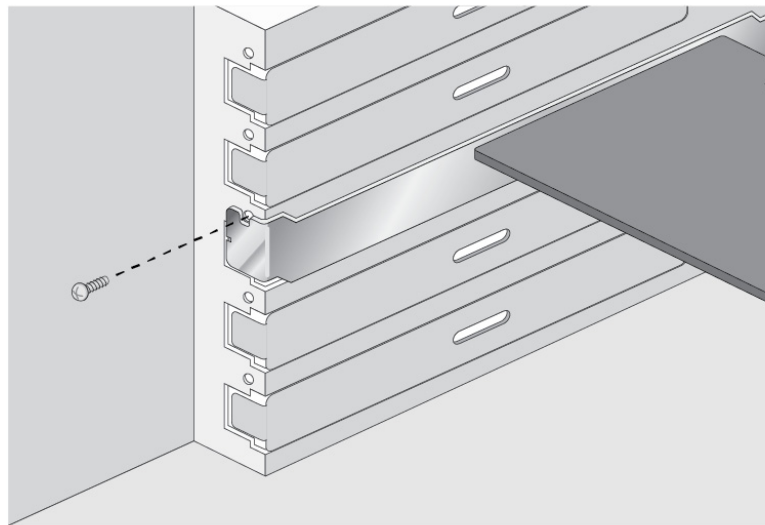

Figure 9. Securing the Adapter with a High-profile Bracket
6. Secure the network adapter card to the chassis with a Phillips-head screw (not provided). See Figure 9 on page 33.